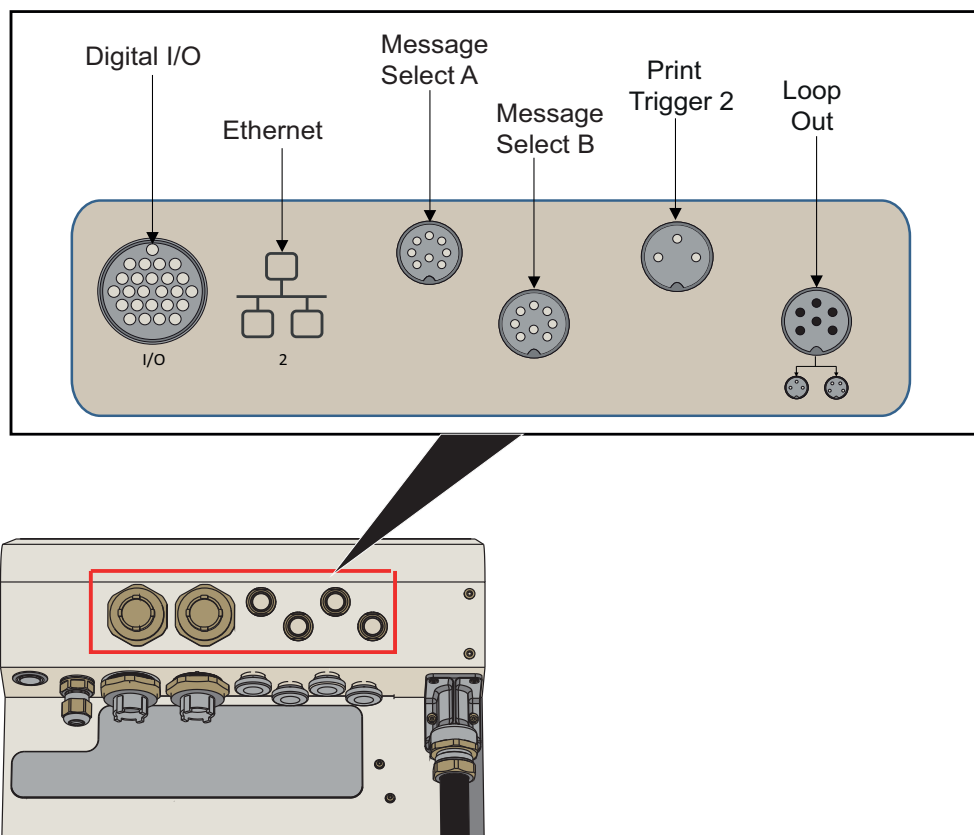

Figure 3-34: Expansion IO
Additional connectivity is available through the addition of Expansion Board and RS232 connector as shown in Figure 3-34 to the printer, for external devices.
The various connections made from the Expanded IO is provided in Figure 3-34.
The I/O 25 way connector (Bulgin Connector) is as shown in Figure 3-34.
**Note:** Figure 3-34 represents the view of the connector from the back of the printer.